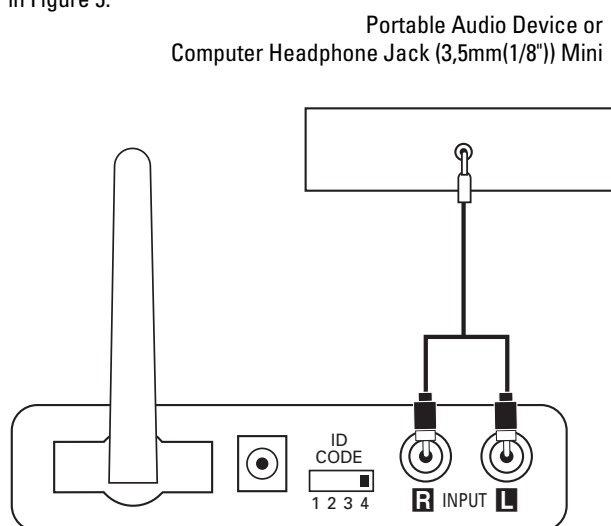

Figure 5.
**Step 1.** Connect the RCA – mini-jack cable (included) to the preamp out, line out or headphone 3,5mm (1/8-inch) output of your portable audio player and the inputs on the transmitter module ⑭, as shown in Figure 5.